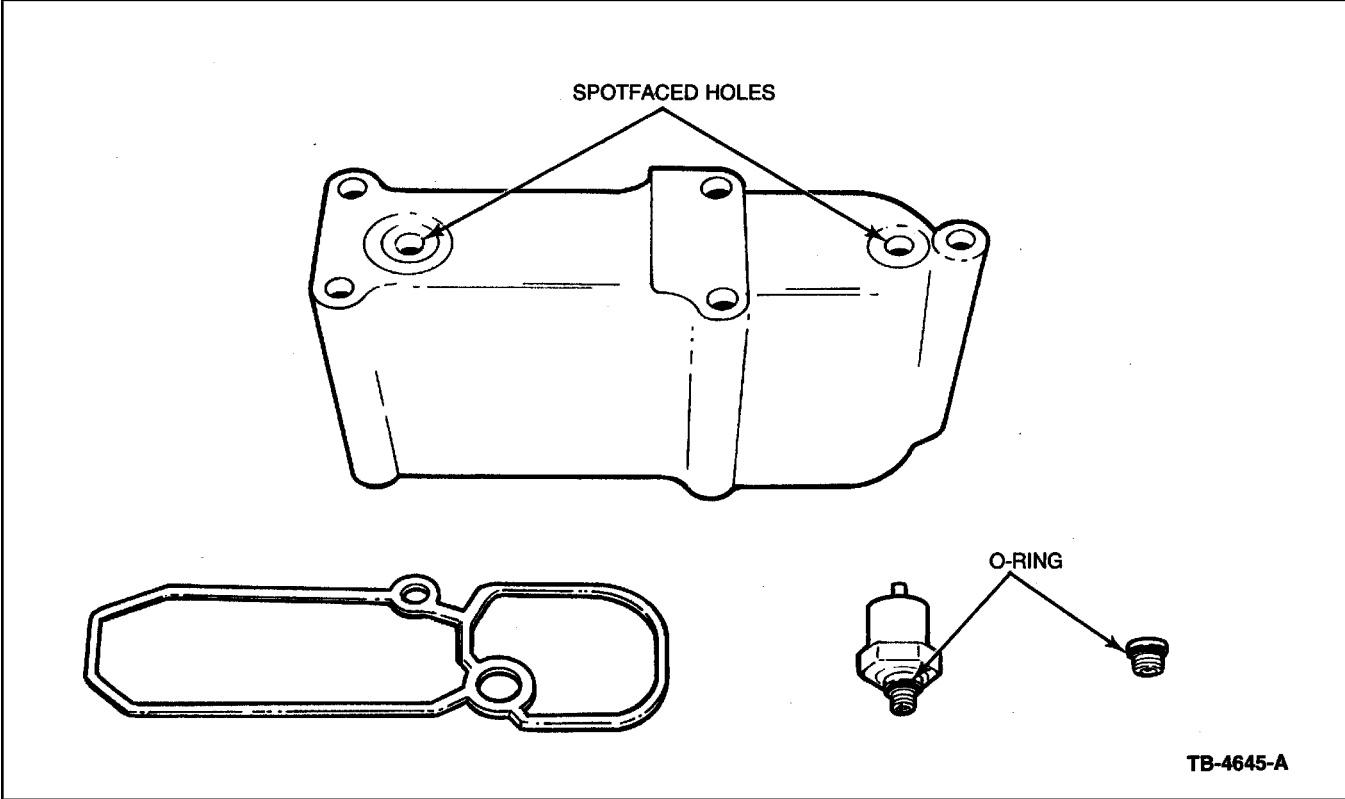

Figure 3 - Article 96-11-13
- New reservoir includes anti-drainback standpipe and new straight thread, O-ring sealed oil pressure sensor and inspection plug. Figures 3 and 4.